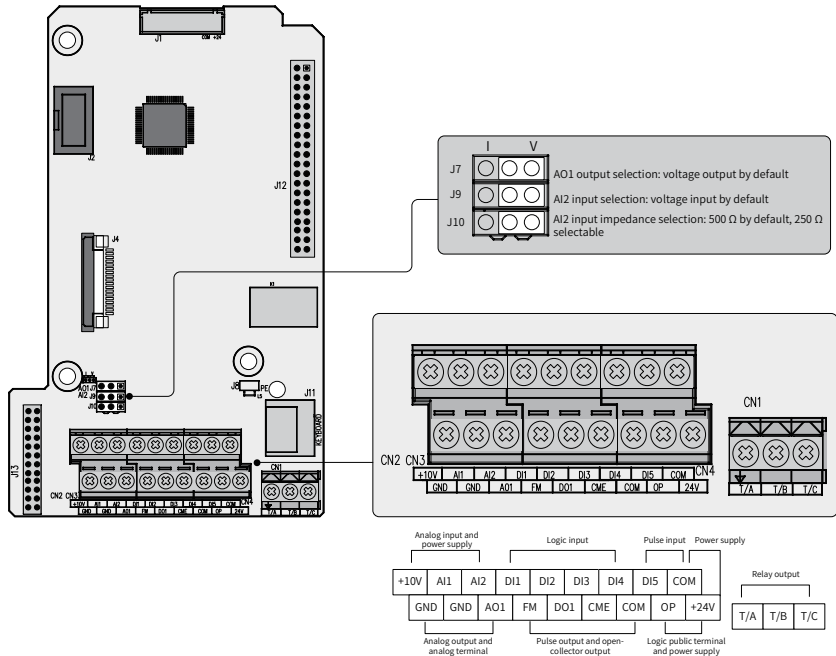

Figure 2-7 Control circuit terminal arrangement
- ◆ [3] For positions of jumpers J7, J9 and J10, see "Figure 2-7 Control circuit terminal arrangement".